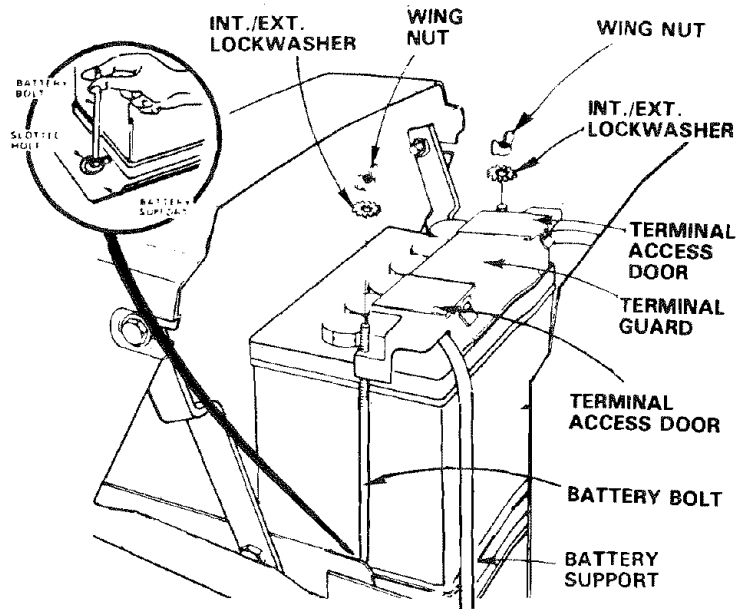

FIGURE 6
- d. Connect **RED** battery cable to positive (+) battery terminal with hex bolt, flat washer, lockwasher and hex nut (shown full size on page 6) found in bag of parts (Fig. 6). Tighten securely with two 7/16" wrenches.
- e. Connect **BLACK** ground cable to negative (-) battery terminal with remaining hex bolt, flat washer, lockwasher and hex nut (shown full size on page 6) found in bag of parts (Fig. 6). Tighten securely.
- f. Using the square hole on one side of the battery support (Fig. 6) insert one battery bolt, head of bolt down. Fasten the battery bolt to the terminal guard using int./ext. lockwasher and wing nut as shown in Fig. 6.
- g. Assemble the remaining battery bolt to other side of battery support and fasten terminal guard to it with remaining int./ext. lockwasher and wing nut. Tighten wing nuts securely by hand (Fig. 6).
- NOTE: USE TERMINAL ACCESS DOORS (FIG. 6) FOR: